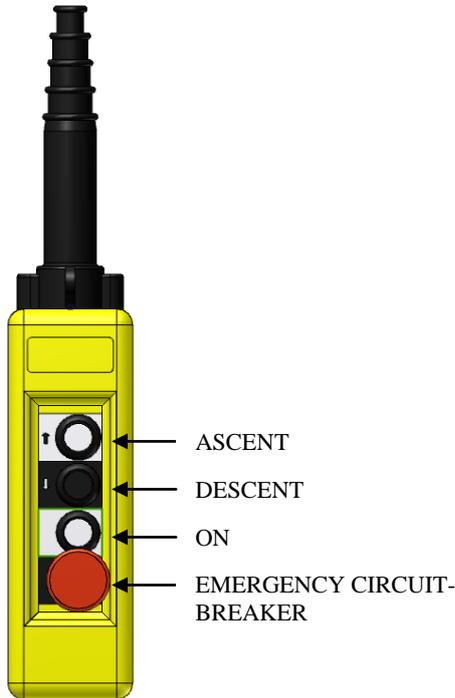

Figure 3
- Release the emergency circuit-breaker (rotate the button to unlock it) – Figure 3
- Press the "On" button. The general contactor is activated – Figure 3.